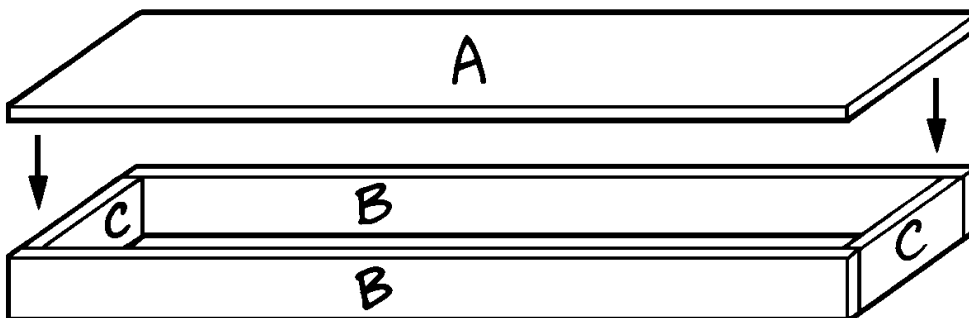

Figure 1
2. Cut two long shelf supports (B) from 1 x 4 pine, each measuring 50-1/2" long. Cut two short shelf supports (C) form 1 x 4 pine, each measuring 10" long.
3. Place the two shelf supports (B) on a level surface, parallel to each other, on edge, and 10" apart. Place the two short shelf supports (C) between the two long shelf supports (B) as shown in *Figure 1*. Glue the supports together and drive two 1-1/4" screws through the long shelf supports (B) and into the short shelf supports (C) at each joint.
4. Glue the shelf (A) onto the shelf support assembly, as shown in *Figure 1*. Drive several 1-1/4" screws through the top of the shelf (A) into the edges of the shelf-support assembly, spacing the screws about 6" apart.